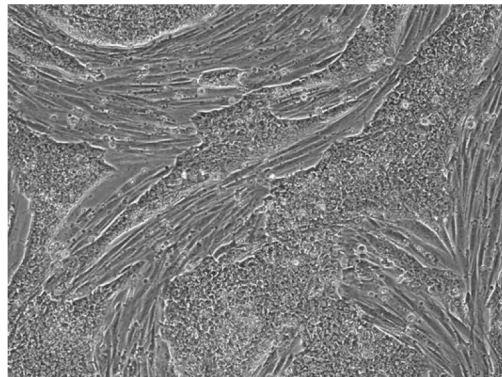

Figure 1 Xeno-Free Growth of hESCs on Feeders
- Once HFF feeder cells have attached and spread (generally 8 hours to overnight), hESCs can be plated on the HFF vessels as desired (see Figure 1).